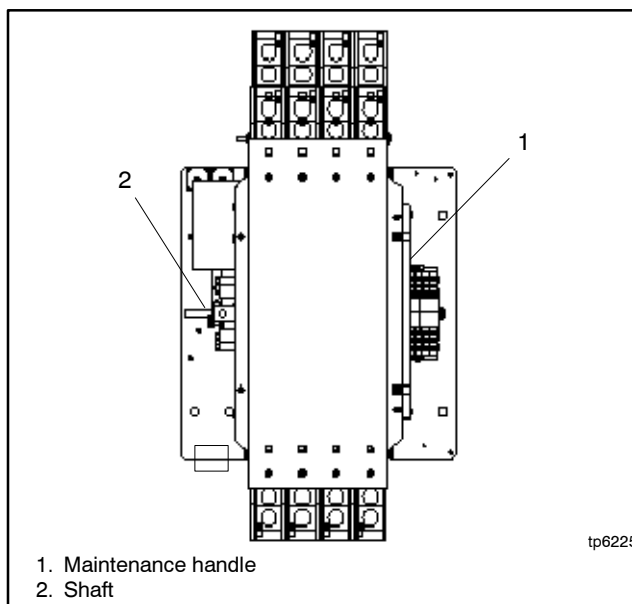

Figure 2-6 Manual Operation Handle, 400-600 Amp Model KDT/KMT Open-Transition Switches
1. Remove the maintenance handle from the clips on the right side of the transfer switch frame. See Figure 2-6.